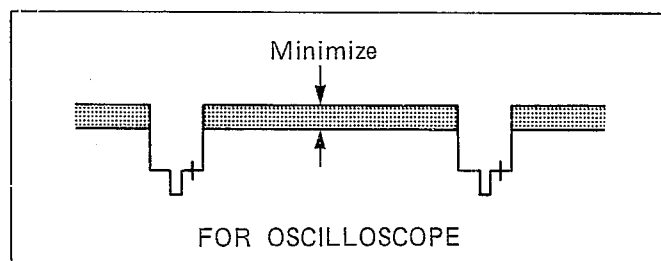
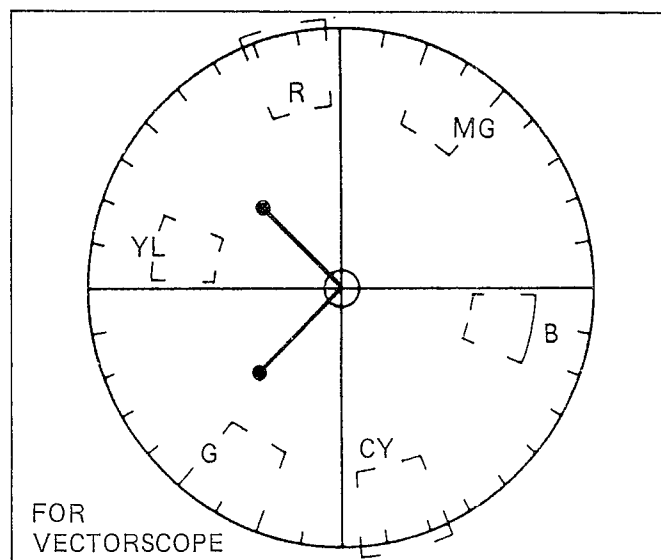

Fig. C11
Fig. C12
- (1) Connect the Video output to vectorscope. (or oscilloscope)
- (2) Place the unit to "FADE" by pushing "SHIFT 1" and "D" keys together.
- (3) Push "CMD", "0" and "1" keys.
- (4) Push "ADR", "2" and "C" keys.
- (5) Push "INC" or "DEC" so that waveform become minimized as shown in Fig.C11. or so that vector comes to centre as shown in Fig.C12.